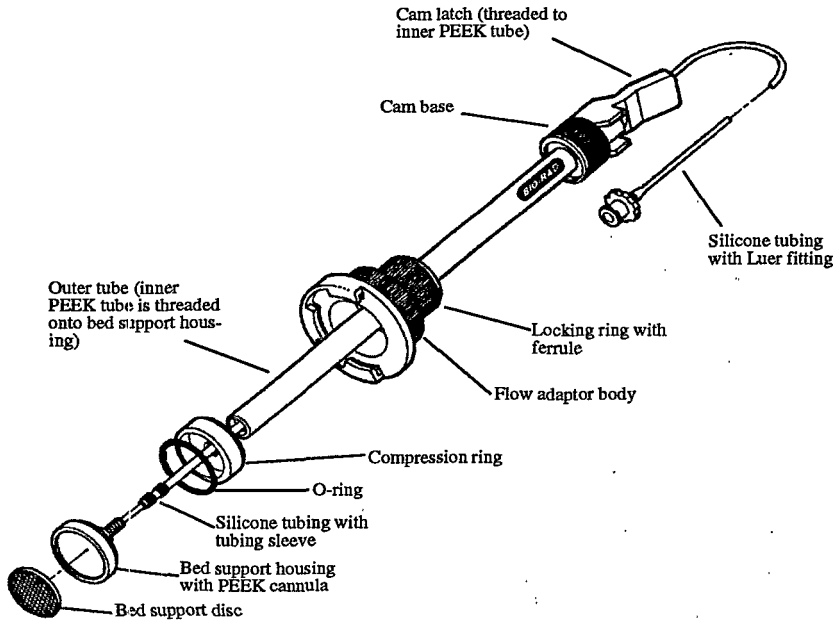

Fig. 4. Assembly with Silicone, Tygon, or Norprene tubing.
1. Refer to Figure 4. Unscrew the bed support housing by holding the cam base while turning the bed support housing counterclockwise.
3. Carefully press the tubing over the PEEK cannula. At least 1.5 cm of the PEEK cannula should be inserted in the tubing (Figure 4).